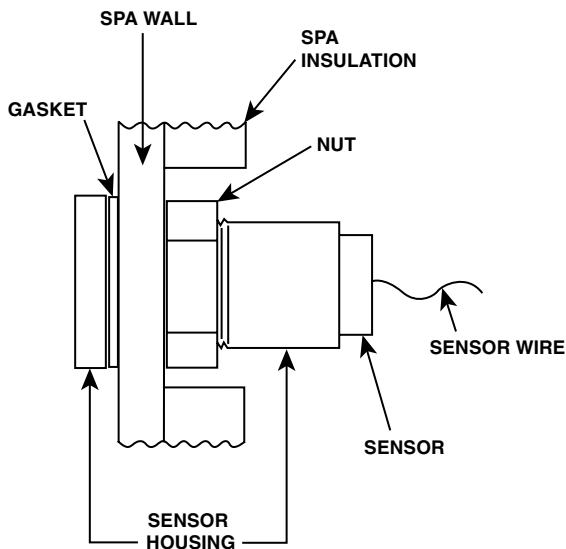

Figure 3 - Side view of installed sensor and housing
Mounting Instruction (Figure 3)
5. Insert the sensor probe into the housing ensuring it is pushed to the end of the probe well. The result should look similar to that shown in Figure 3.